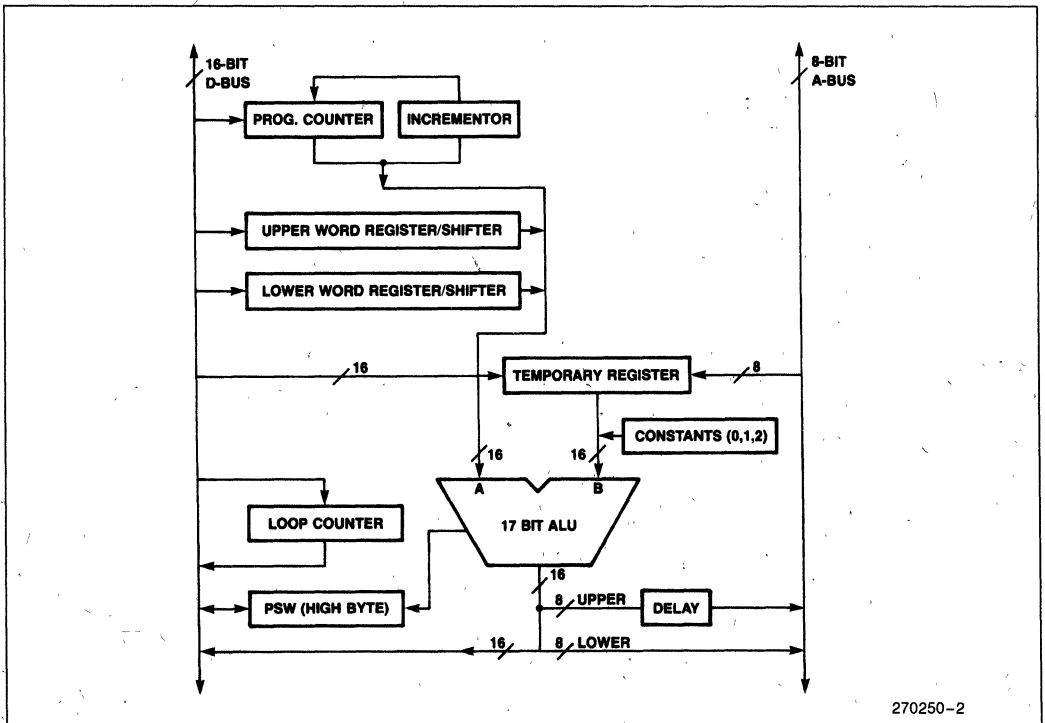

Figure 2. RALU Block Diagram
Most calculations performed by the 8X9X take place in the RALU. The RALU, shown in Figure 2, contains a 17-bit ALU, the Program Status Word (PSW), the Program Counter (PC), a loop counter, and three temporary registers. All of the registers are 16-bits or 17-bits (16 + sign extension) wide. Some of the registers have the ability to perform simple operations to off-load the ALU.
The DELAY shown in Figure 2 is used to convert the 16-bit bus into an 8-bit bus. This is required as all addresses and instructions are carried on the 8-bit A-Bus. Several constants, such as 0, 1 and 2 are stored in the RALU for use in speeding up certain calculations. These come in handy when the RALU needs to make a 2's complement number or perform an increment or decrement instruction.